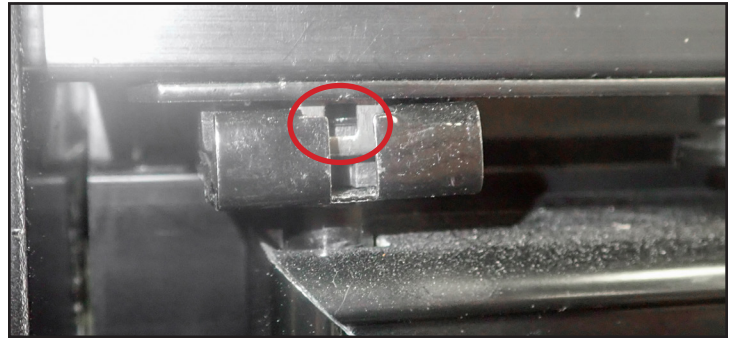

Fig. 11. Hinge clip in the top door hinge.
- b. Insert the compressed hinge retention clip below the hinge clip in the top door hinge. See figs. 11 and 12.